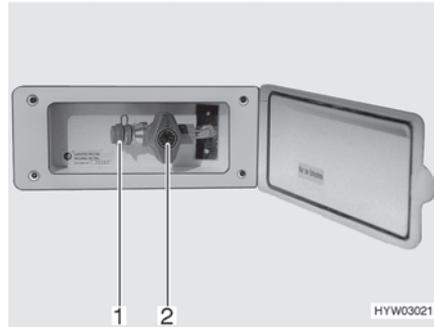

Fig. 130 External gas connection (gas isolator tap closed)
The external gas connection (Fig. 130) is located at the rear or to the left or right of the vehicle depending on the model.
- Connect the external gas device to the connection point (Fig. 130,1).
- Open the gas isolator tap (Fig. 130,2).